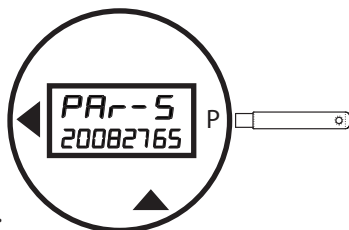

Figure 22.
- Pass the wand over the **P** once to advance to the second menu level. The selection **PAR-S** with the meter's serial number will appear (Figure 22). This is the first item in the second menu level.